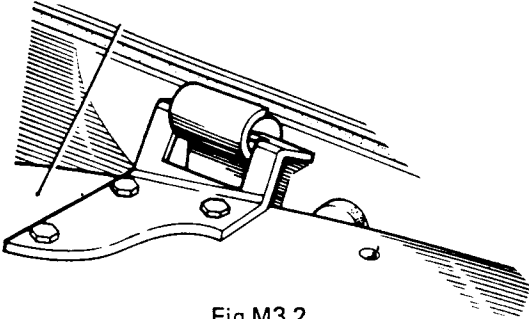

Fig M3.2
- (4) Refer to Fig M3.2. Lift the bonnet clear from the hinges.